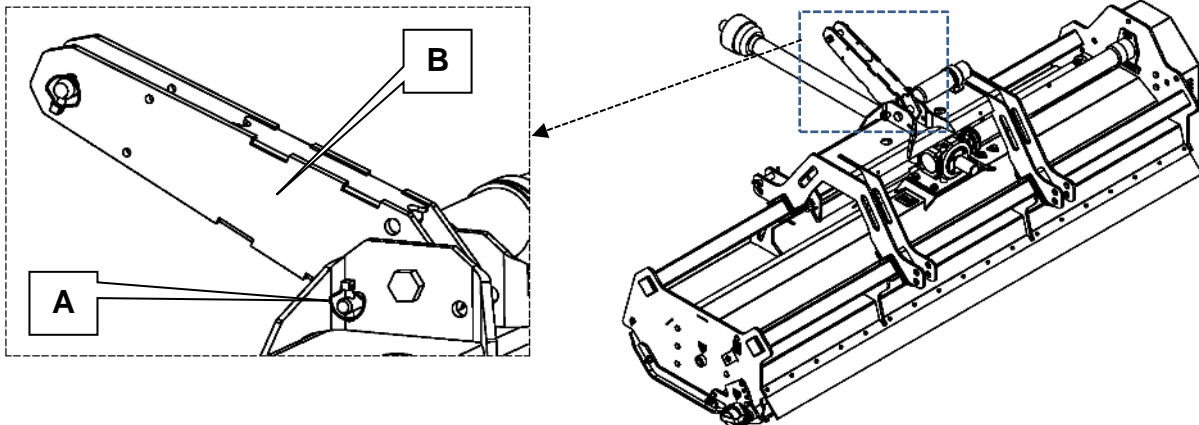

Figure 1.8
- 1.5.1.2 The machine is normally supplied configured for rear mount, see Figure 1.8.
- 1.5.1.3 Remove lynch pin Figure 1.8 (A) and rotate Top link arm Figure 1.8 (B) to the rear and refit lynch pin.